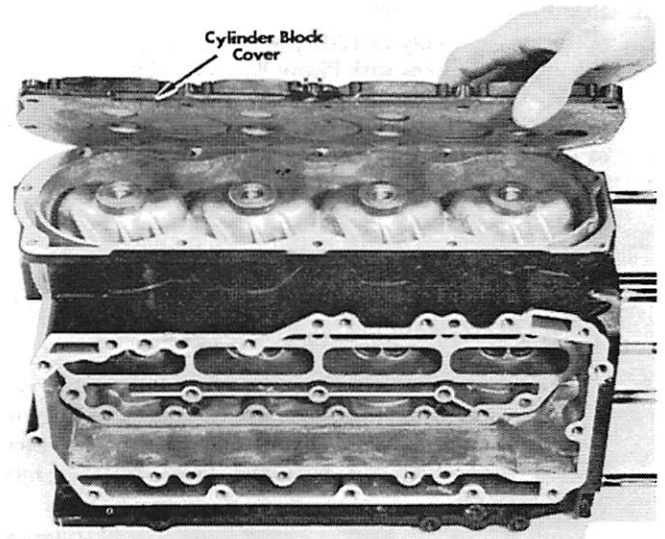

Figure 8. Removing Cylinder Block Cover
8. Remove screws from cylinder block cover and remove cover. (Figure 8)